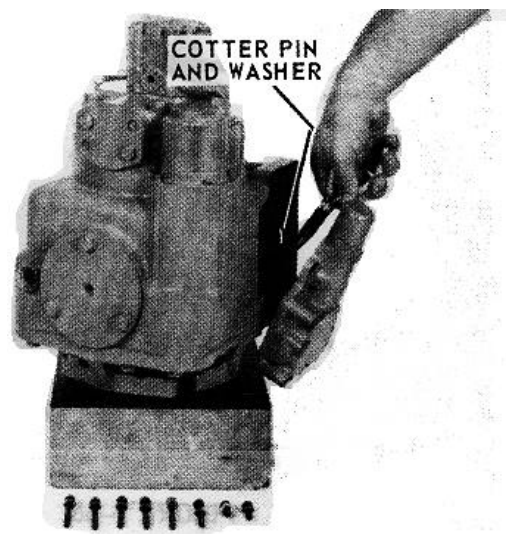

FIGURE 7-59.
c. Lift the valve away from the housing and remove the cotter pin and washer (see figure 7-59). Remove pin